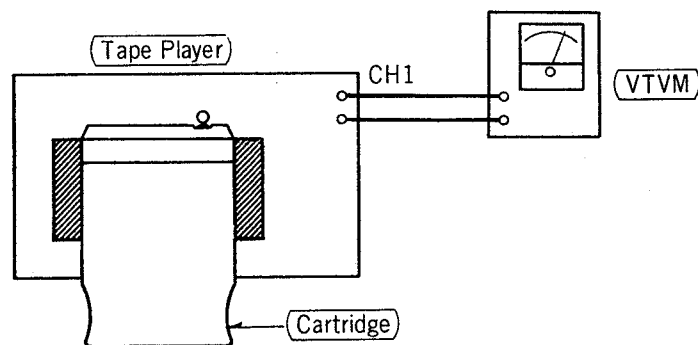

Fig. 13
2. Connect the VTVM to the output of CH1 as shown in fig. 13.